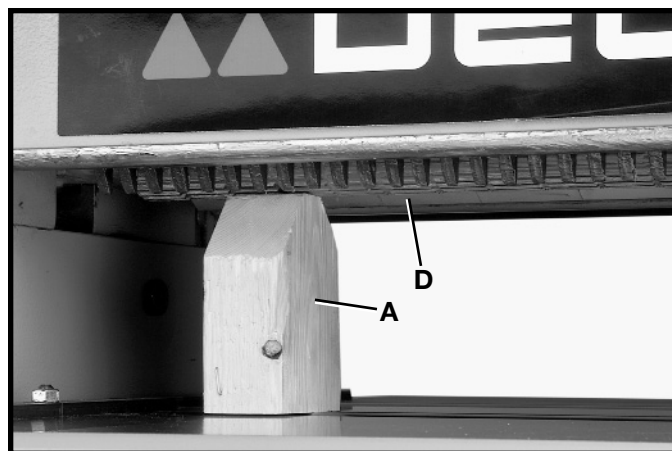

Fig. 47
4. Place gage block (A) Fig. 47, under infeed roller (D). The bottom of roller (D) should just touch gage block (A).